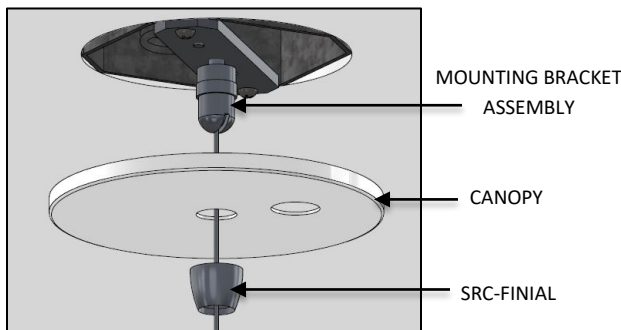

FIG. 33 – CANOPY DISASSEMBLY
15. Once the GLOWRING BODY is secured to the AIRCRAFT CABLE (4) at the GRIPLOCK (4) Unthread the SRC-FINIAL from the MOUNTING BRACKET ASSEMBLY and lower the CANOPY as shown below in FIG. 33.